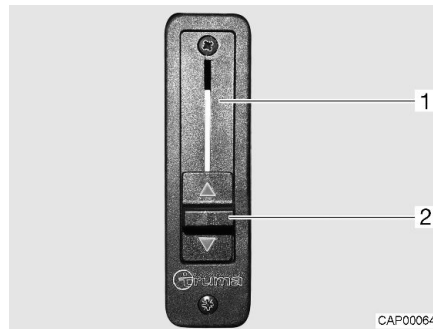

Fig. 4 Sliding regulator for branch block
- Push the sliding regulator (Fig. 4,2) fully upwards. The branch block (Fig. 4,1) is open. The living area heater also heats the windscreen.
- Push the sliding regulator (Fig. 4,2) fully downwards. The branch block is closed. The living area heater and the heater of the base vehicle are disconnected from each other.